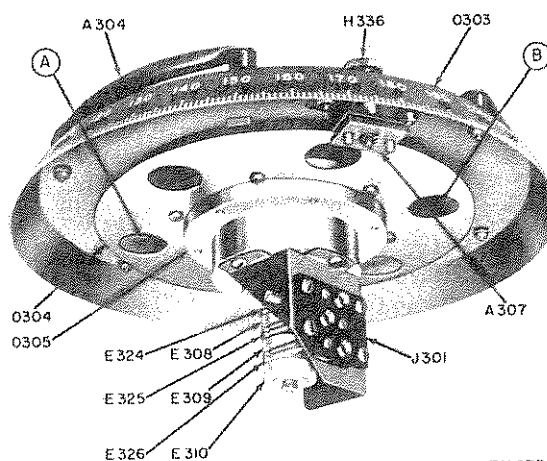

Figure 76. Azimuth disk and antenna mount, bottom view
- (2) Remove locking antenna housing clamp (36).
- (3) Remove the contact spring and jack assembly (J301) from the mounting flange.
- (4) Remove the two $\frac{3}{16}$ -inch thick ring nuts and washers (19 and 18) by using two flat wrenches, each of which has a thickness of one-eighth inch and a jaw opening of $1\frac{1}{4}$ inch.
- (5) Insert a heavy screw driver or flat bars in each of the round holes A and B, figure 76, and *gently* force out the antenna support hub (5) and its attached locking disk (30) from the azimuth scale assembly. This will expose the ball bearings (3) and the two rubber O rings (4).
- (6) To remove the antenna mount assembly from the azimuth disk, take out the eight screws and lockwashers (43 and 42) that attach the two assemblies together